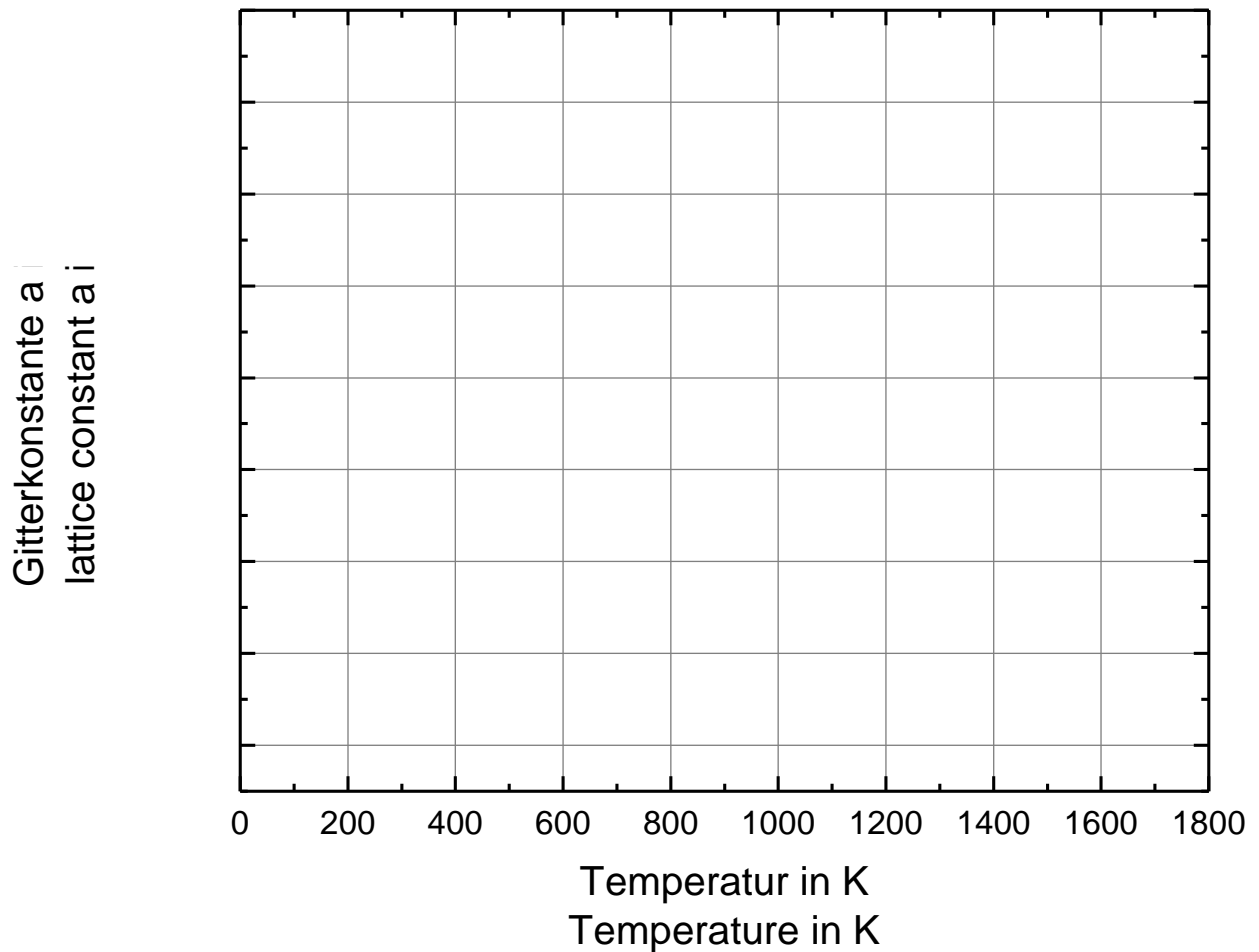

Figure 1: Temperature dependency of the lattice constant a of pure iron
- a) Sketch qualitatively the temperature dependency of the lattice constant “a” of pure iron in the given Diagram in Figure 1. (2 Points)
Chromium is an important alloying element for the design of corrosion resistant steels. Sketch a current density – potential curve of a stainless steel in Figure 1. Indicate all characteristic current density and potential points from the legend in the sketched diagram. (6 Points)
Figure 1 current density – potential curve of a stainless steel